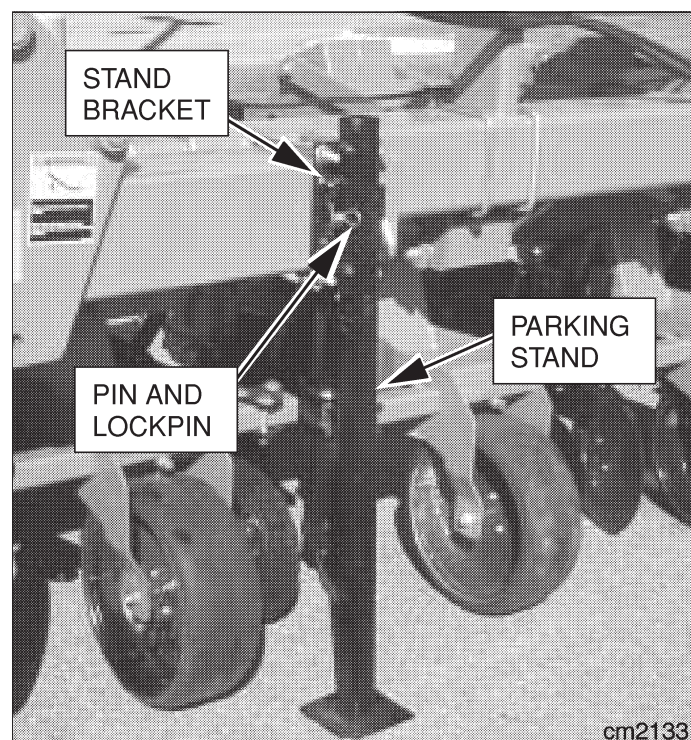

Figure 8 Front Parking Stand Lowered and Pinned
6. Lower front parking stands to the ground and pin in position so that parking stands will be vertical when the tractor is removed. See Figure 8.